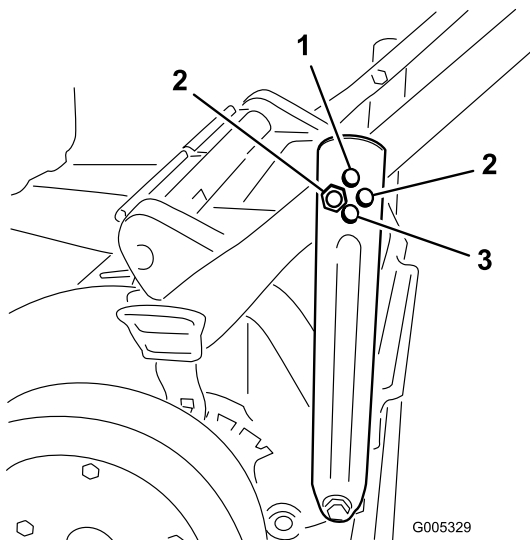

Figure 6
2. Insert the bolt through the hole in each of the handle braces that sets the handle to the desired position and tighten (Figure 6).